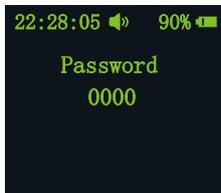
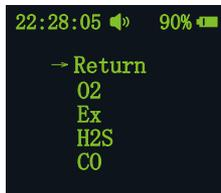

Fig.7
Fig.8
Detector in the normal detection of the main interface, press ▲ to enter the alarm recording interface, the record includes the alarm sensor name, alarm type, alarm value, alarm time. As shown in Figure 7: This feature can view the gas alarm history, easy checking. As shown in the following table:
1. Move the cursor to set and press" (⏻)"to enter set interface, input four passwords, as shown in Figure 7, the user can press"(⏻)"to move the cursor, input the password by▲ ▼ key, sensor parameters as shown in Figure 8.
In the menu function interface, select the Zero, press" (⏻)" key to enter the password interface shown in Figure7, input the correct password, the same need to select the zero gas type, still with Ex as